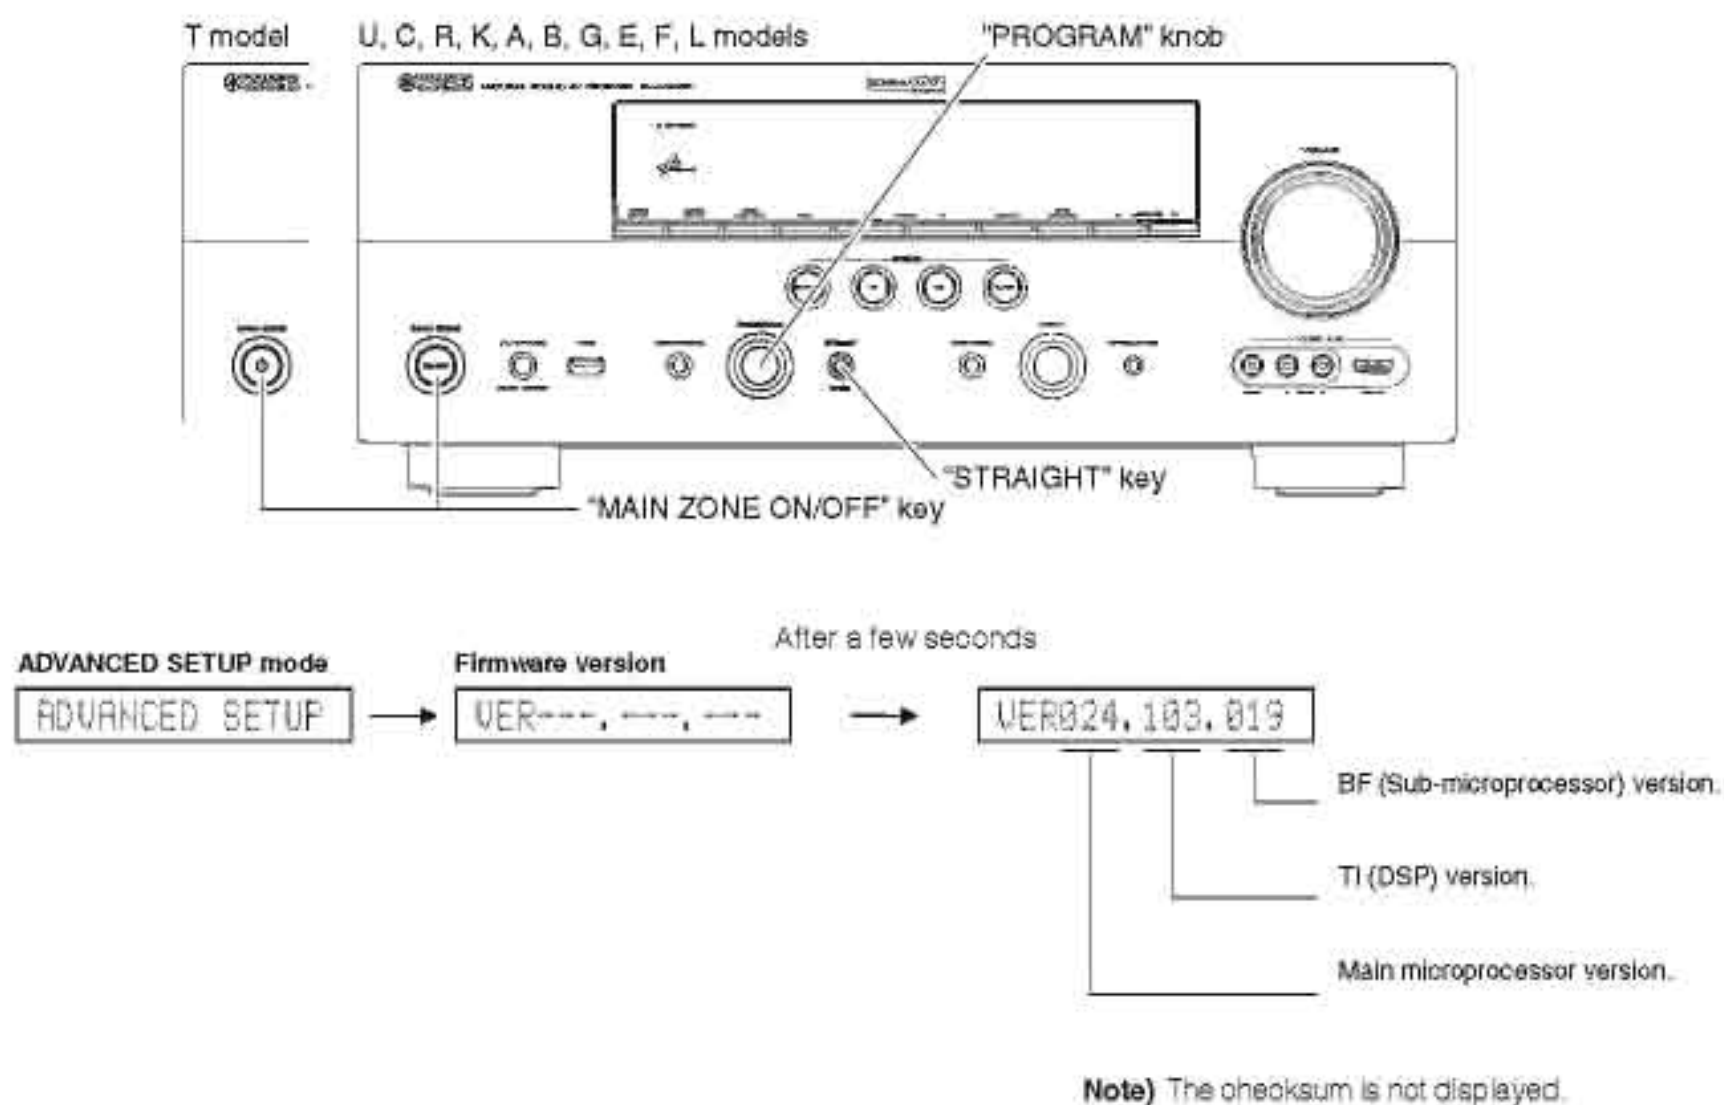

Fig. 1
The ADVANCED SETUP mode is activated, and "ADVANCED SETUP" is displayed. (Fig. 1)
2. Rotate the "PROGRAM" knob and select the "VER--- -- --". (Fig. 1)